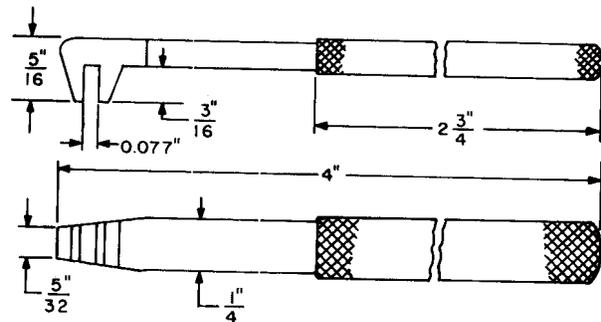

Fig. 7—371B Adjuster Tool
2.07 **371B:** The 371B tool (Fig. 7) is a spring adjuster for use in adjusting the retractile spring of the KS-13835 readers. The 371B tool replaces the D-178349 tool.